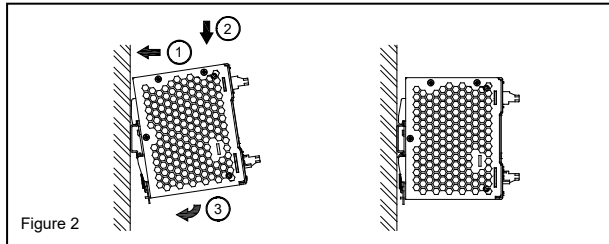

Figure 2
3. Mounting (Fig. 2)
Snap on the DIN rail as shown in Fig. 2: